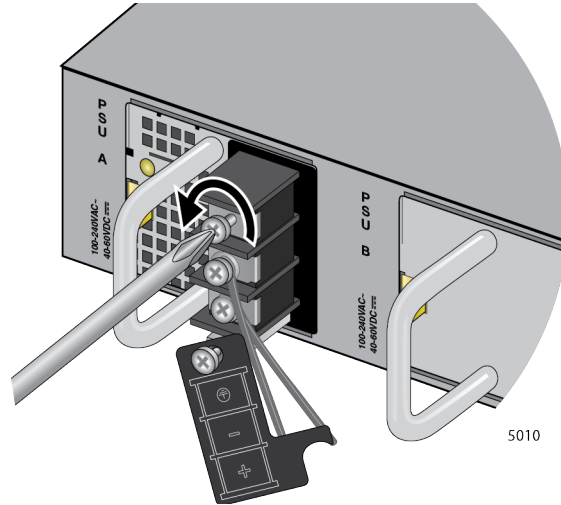

Figure 69. Loosening the Screw for the Negative (+)
- Loosen the top screw for the positive (+) with a Phillips-head screwdriver. Refer to Figure 69.